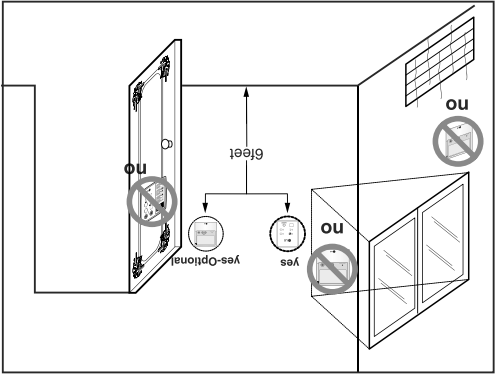

Fig.1 Typical locations for IR Remote Sensor
- This IR remote sensor is equipped with LED display and ON/OFF button. For proper display of the IR remote sensor, The IR remote sensor should be installed properly as shown in Fig.1.